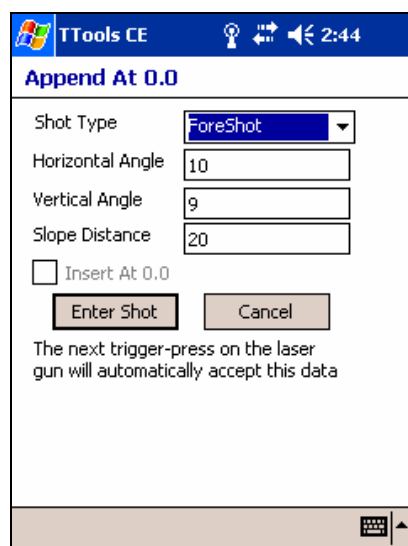

Figure 8.1: Serial Input Dialog Box
3. Press the trigger on the laser gun. A *Serial Input Dialog* pops up displaying the azimuth, slope distance and vertical angle as shown in Figure 8.1. Tap the *Enter Shot* button to insert the data as a new record in the survey notes.